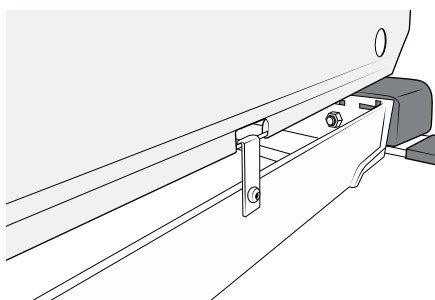

Figure 96
36. Put back the Roller curtain rod. See Figure 96.